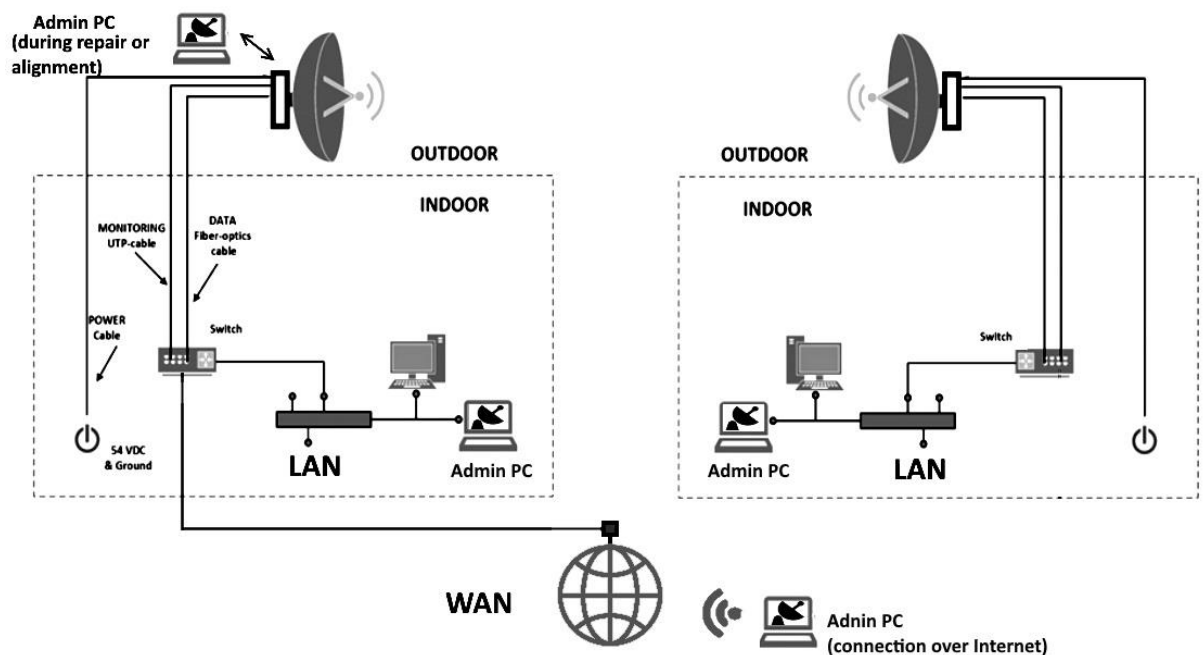

Figure 1: PPC-10G radios LAN / WAN web access connectivity
Note. Be sure **192.168.127.254**, **192.168.127.253** addresses are not occupied in your network by any other devices. Otherwise, release these IP addresses temporary for the “first time login” to radios. In case if releasing of addresses is not possible, bring Admin notebook equipped with Ethernet port to nearby of LAN switch with MONITORING cable from the radio inserted (Fig.1). Disconnect MONITORING cable from the switch and insert this cable RJ-45 jack into notebook’s Ethernet port. Start web browser and proceed as described below in 2.1 section.
- **Max Data Rate (Mbit/s)** — shows current Receiver (RX) / Transmitter (TX) data rate according to modulation, bandwidth, weather and distance conditions, and other parameters.
- **Link (Ethernet)** indicator — normally Green — shows the integrity of fiber optics cable from link DATA socket (Fig. 1, 3) to indoor network device (switch).